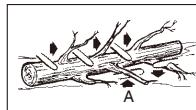

Fig. 12
Llimbing a tree is the process of removing the branches from a fallen tree. Do not remove supporting limbs (A) until after the log is bucked (cut) into lengths (Fig.12). Branches under tension should be cut from the bottom up to avoid binding the chain saw.